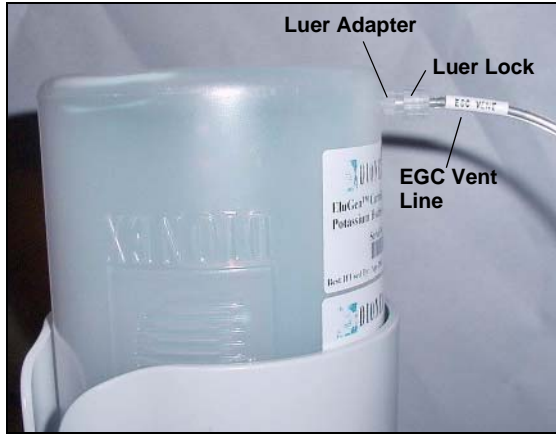

Figure 5-73. EluGen Cartridge Vent Line and Luer Fitting
4. Remove the **EGC VENT** line (see Figure 5-73) from the EluGen cartridge by unscrewing the luer lock from the luer adapter.